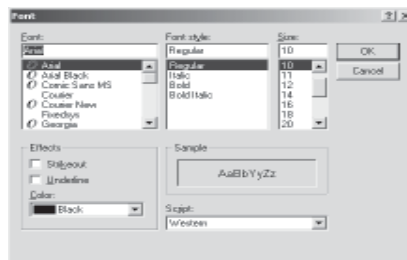

Fig. 4-40 Set Font Properties
(3) Font: Set the font of the explanation word. Double click the left zone of **Font**, the font setting dialogue frame, as in Fig. 4-40 will be seen. The shape, size, colour and so on can be set in the dialogue block.